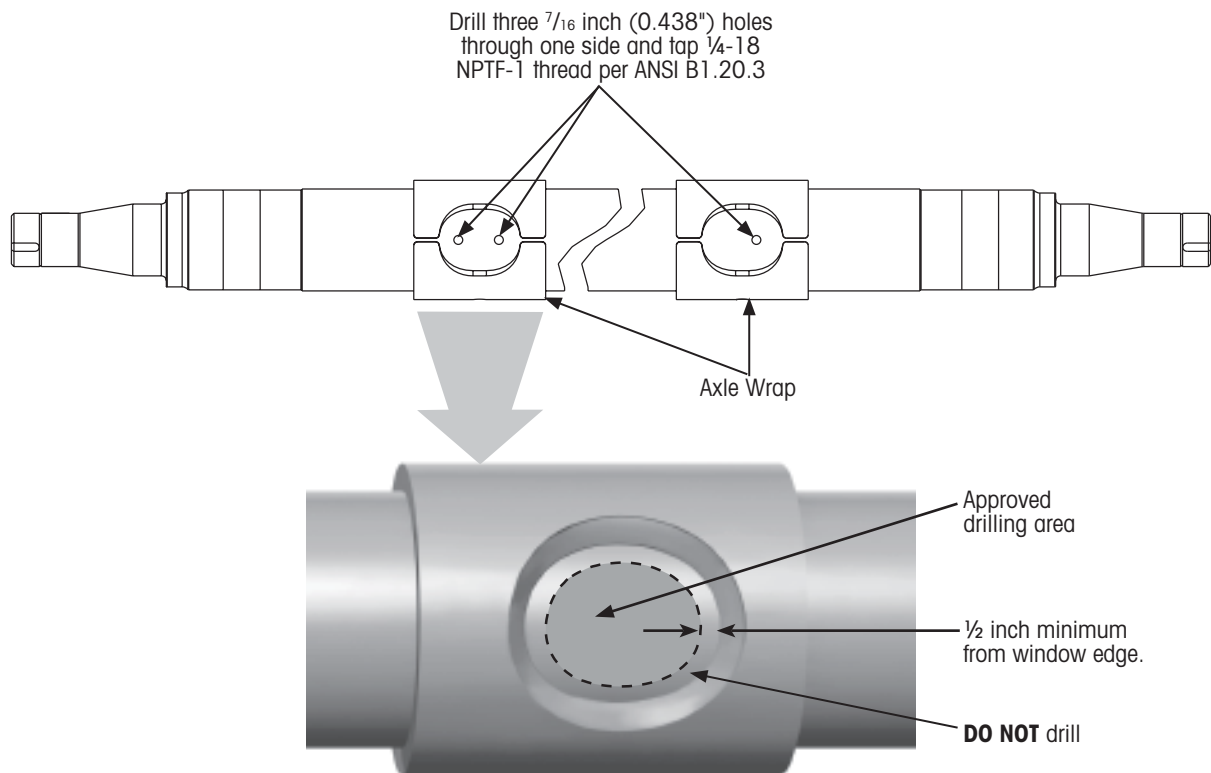
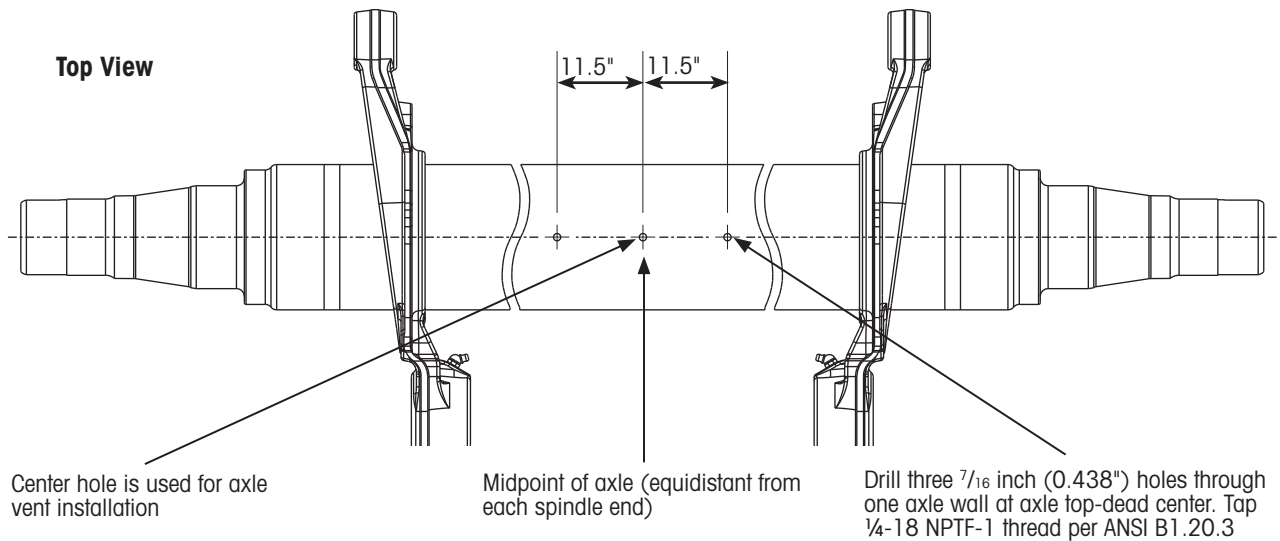

Figure 6: INTRAAX® / VANTRAAX® suspension axle drilling details
Figure 7: Hendrickson TRLAXLE® drilling details
9. Using the information in Figure 6 or Figure 7, drill and tap three ¼ inch - 18 NPT holes in the axle wrap windows (on INTRAAX® and VANTRAAX® suspensions) or at the midpoint of the axle (on Hendrickson TRLAXLE Trailer Axles).
NOTE: Figure 7 drilling details are for Hendrickson TRLAXLE®. If other than TRLAXLE, **CONTACT HENDRICKSON**.
NOTE: INTRAAX® / VANTRAAX® suspension shown, but axle vent installation is the same for Hendrickson Trailer Axles. On these axles, the vent tube is installed in the center hole (refer to Figure 7).
NOTE: For TRLAXLE® refer to Figure 7 on page 15 for location. In this case, the vent tube is different from that in Figure 16 and curves to point downward. It can be rotated upward during installation.